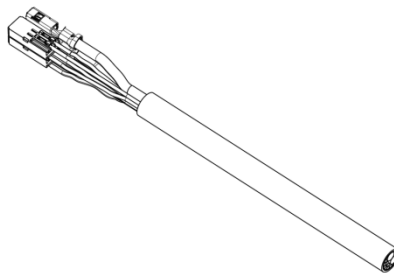

Figure 28
1. Make the “cable assembly” by crimping the two terminal block assemblies & power contacts (Fig 28).